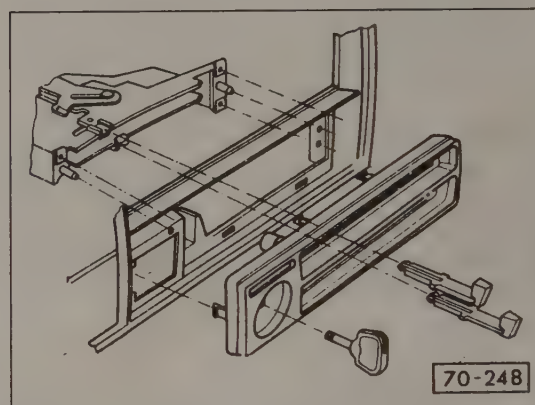

Fig. 4-5. Exploded view of ventilation control head showing removal of control levers.
6. Remove the heating and ventilation control head from the instrument panel. Pull the control levers straight out, unclip the trim plate, disconnect the wires to it, and remove the plate. Then remove the three control head mounting screws. See Fig. 4-5.
Replace control cables by first removing the center console and the lower instrument panel trays as described in **4.1 Instrument Cluster and Instrument Panel**. Next, remove the control head from the instrument panel as shown in Fig. 4-5 above. Release the cable housing retaining clips on the heater box and control lever, and then pull the cable off of the door control lever. Connect the new cable to the door lever, but do not install the cable housing retaining clip on the heater box. Connect the other end of the new cable to the control head as shown in Fig. 4-18, install the cable housing retaining clip, reinstall the control head in the instrument panel, and adjust the cable as described below. The remainder of installation is the reverse of removal.